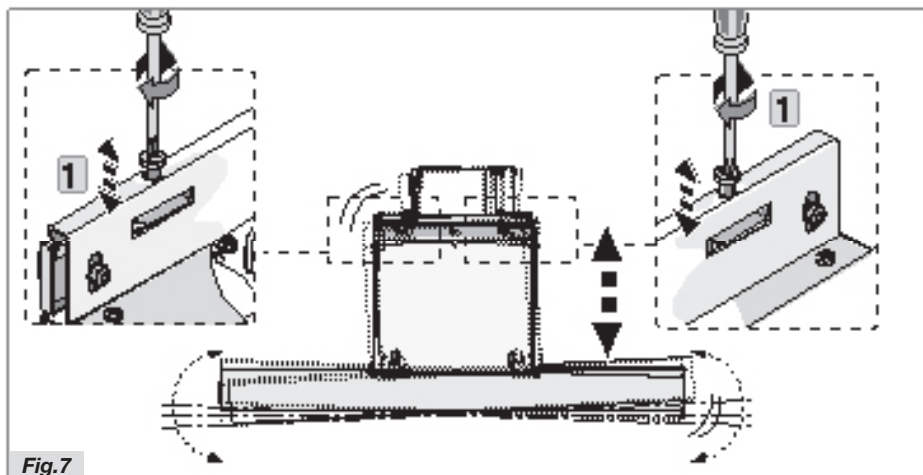

Fig.7
- Align the device horizontally, adjusting the two levelling screws accordingly (figure 7 step 1).